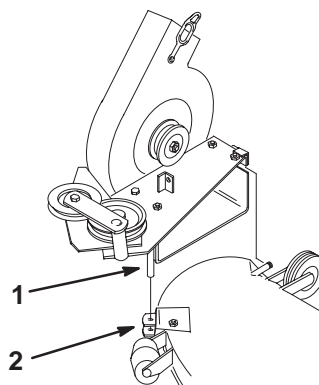

Figure 16
1. Insert the pivot pin on blower into the pivot support bracket on the mower (Fig. 16).